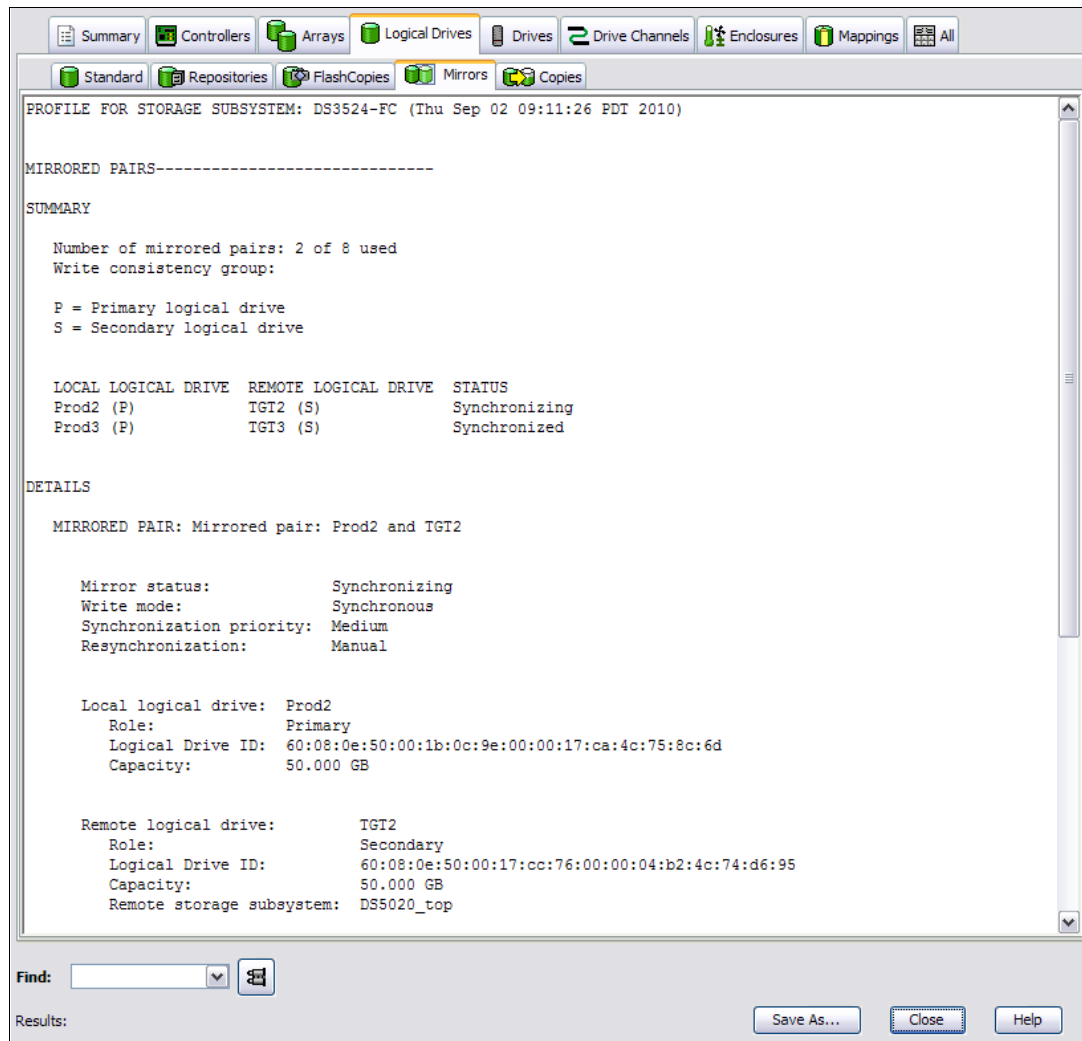

Figure 5-29 Storage Subsystem Profile: Mirrors tab
- Mirrors: This tab is a section of logical drive information that lists remote mirror properties. The Mirrors tab is available only when the Remote Mirroring premium feature is enabled and activated. See Figure 5-29.